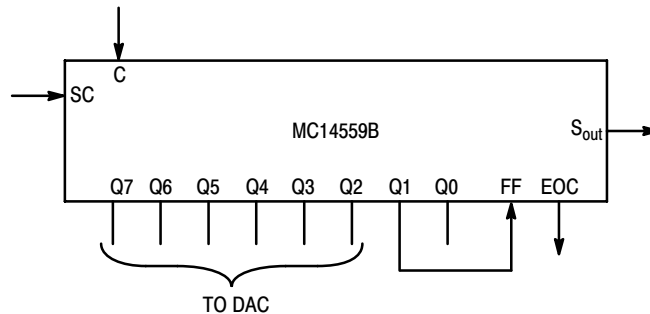

Figure 2. Externally Controlled 6–Bit ADC
**Externally Controlled 6–Bit ADC (Figure 2)**